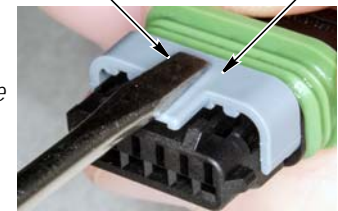

Figure 4
4. After all contacts have been inserted, orient the plug assembly so that the CPA is facing up, then place the tip of a small screwdriver (ensure that there are no sharp edges) over the top of the ISL. See Figure 4.